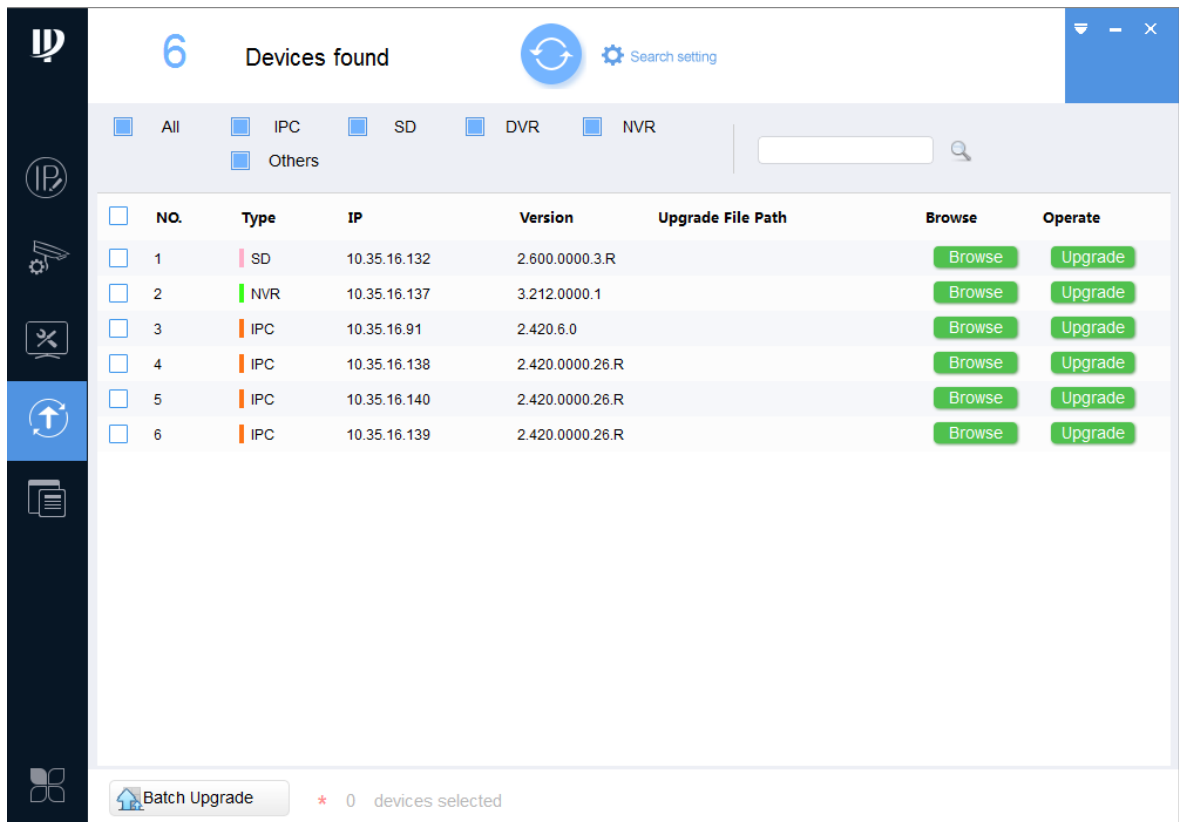

Figure 5-2
Step 5 Click  and the system displays upgrade interface, as shown in Figure 5-2.